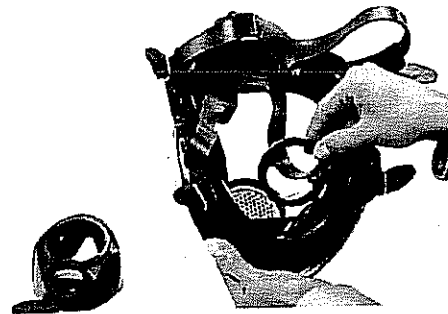

FIGURE 16
- d) Unscrew the nut retaining the speech diaphragm and remove the diaphragm and O-Ring. Inspect O-Ring for damage, replace if necessary. (See Figure 16.)